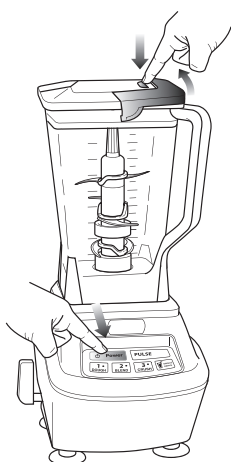
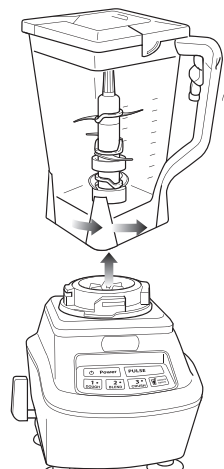

Fig. 7
Fig. 8
- 10 When you have reached your desired consistency, stop the appliance by pressing the power button (⏻) and wait for the attachment to stop turning. (Fig. 7)
- 11 To remove the lid, press the release button on the lid, pull the lid handle up to a 90° angle and lift the lid off. Turn the pitcher counter clockwise and then lift off the base. (Fig. 7, Fig. 8)